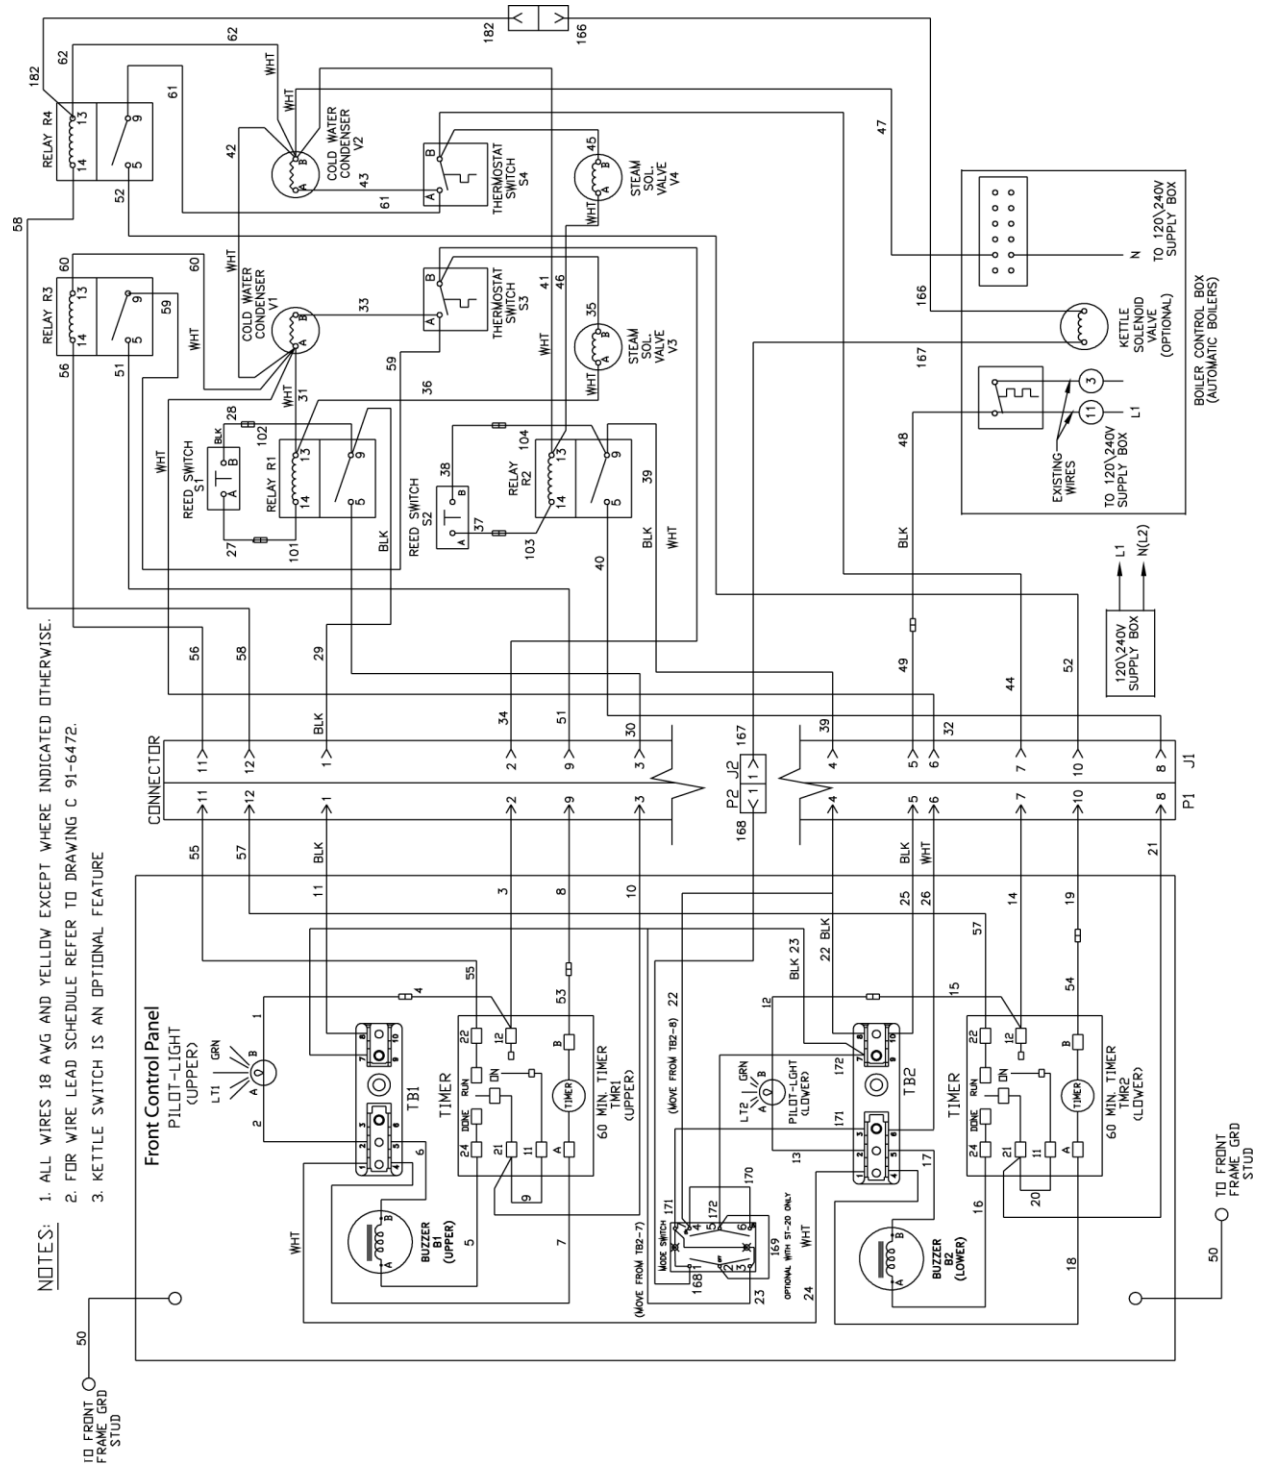
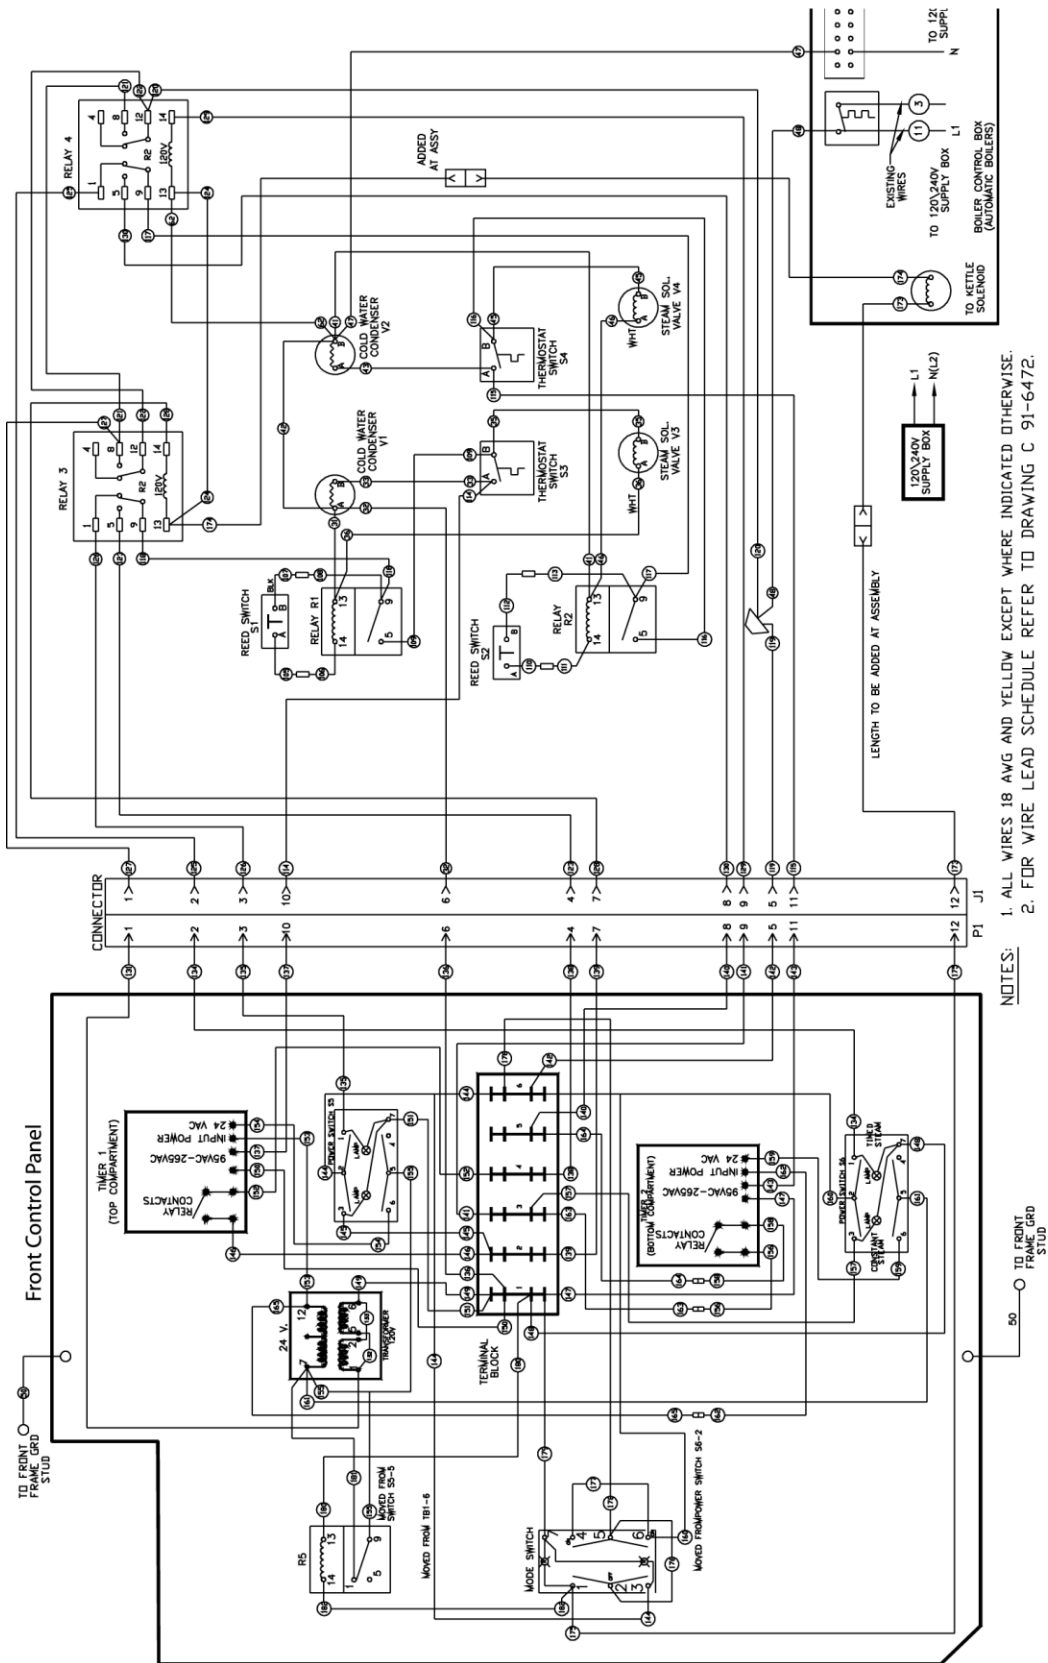

Figure 4, Wiring Diagram, Mechanical Controls, Model ST-24
Figure 5, Wiring Diagram, Digital Controls, Model ST-24
2. Disconnect all five wires from timer terminals (see *Figure 4 on page 22*).
7. Remove ohmmeter and replace all five leads on timer terminals as shown in *Figure 4 on page 22*.
2. Disconnect wires to the door switch terminals (*see Figure 4 on page 22*).
5. Remove the ohmmeter and replace the leads on switch terminals (*see Figure 4 on page 22*).
All of the electrical components of the cooker (*timers, indicator lights, etc.*) are connected to each other by wiring shown in Figure 4 on page 22. If all of the electrical components are operating correctly (*and the incoming power has been checked*), but the cooker fails to operate, the fault lies in the wiring.
Figure 4, on page 22 is a diagram that shows all terminals and interconnections within the electrical circuits. All numbered terminals are identified and all leads number coded as shown. Connections can be easily removed.
Figure 5, on page 23 shows the same information schematically and is an aid in isolating circuits for testing. Using an ohmmeter, wiring continuity between the connections shown on the wiring diagram (*Figure 4 on page 22*) is readily verified. This is best done in stages, removing only those wires required for each continuity check. As each lead is replaced, it should be checked for evidence of corrosion, and cleaned if necessary. All leads must be tightly attached so as to provide a good electrical connection.